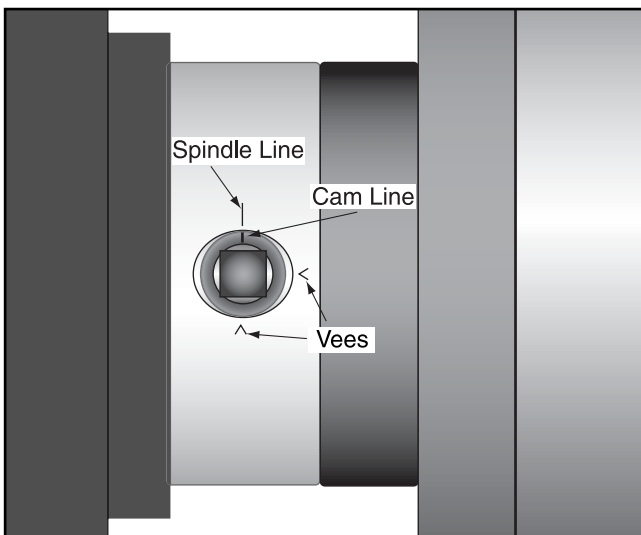

Figure 3. Cam lines aligned to spindle line.
2. Turn a cam, with the chuck key, in the lathe spindle in a counter-clockwise rotation until the line on the cam is aligned with the line going across the spindle housing as in **Figure 3**.